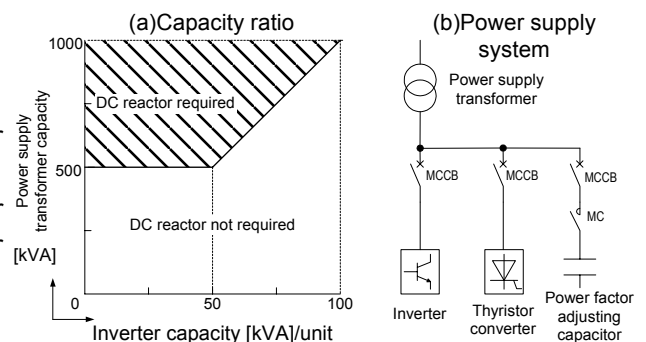

Figure 2-3-4
- The capacity ratio between the power transformer and the inverter follows the Figure 2-3-4.